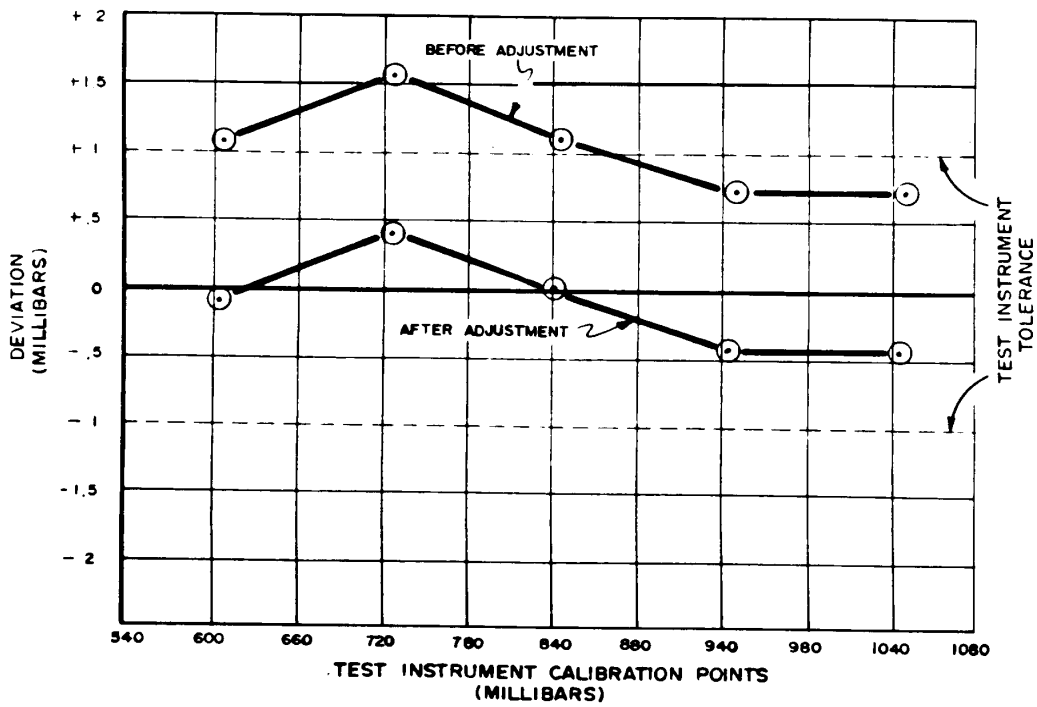

Figure 3. Test instrument adjustment.
(1) Repeat **a**(6) above, recording barometer (A1) indication for 6 to 10 TI calibration points evenly spaced throughout the range of the TI.
(2) Make a graph plotting the TI calibration points on the abscissa (x-axis) and the deviation (difference in barometer and TI indications) on the ordinate (y-axis) (fig. 3).